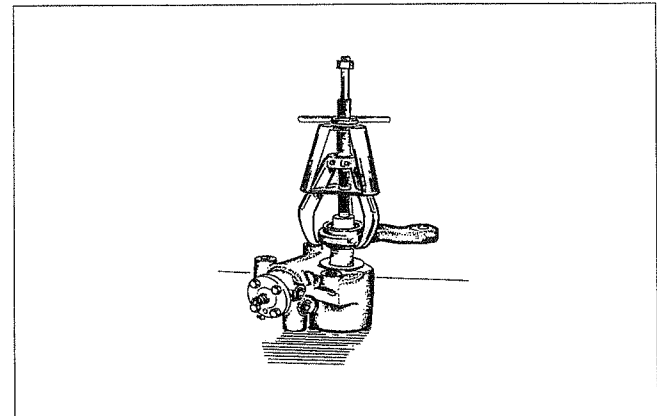

Figure 8
5. Remove the Pitman arm using a three jaw puller (Figure 8).